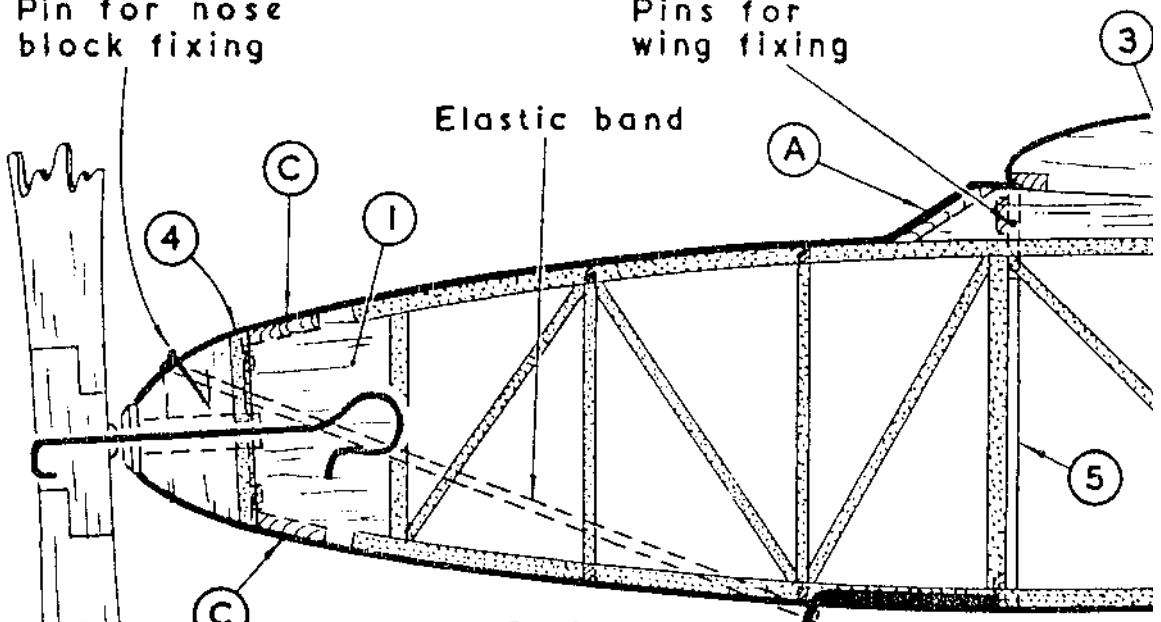
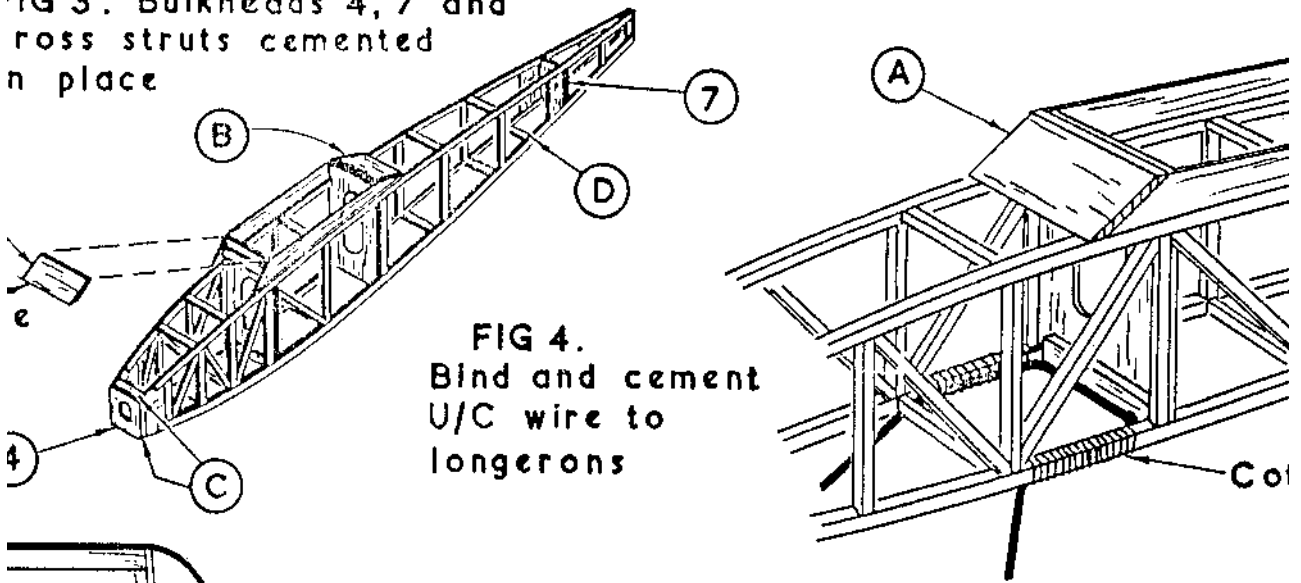

FIG 2. Bulkheads to fuselage side
FIG 4. Bind and cement U/C wire to longerons
Strips of spare $1/16$ in. sheet are cemented to all bulkheads to stiffen them. When dry, assemble bulkheads (5) and (6) to the fuselage sides, see Fig. 2. Next fit bulkheads (4) and (7), holding the assembly together with small elastic bands, and cement the fuselage together at the tail, Fig. 3. Cut cross-struts to length and cement in place. Cut parts A, B, C and D to shape from spare $1/16$ in. sheet, and cement them in place; finally cement part (8) in position. Then sandpaper lightly all over. Form the wire undercarriage, first to the shape shown on the drawing and then bend back the top as shown in the side view drawing. Then bind and cement it to the inside faces of the longerons, Fig. 4. Bend the wire to form the wheel axles at approx. 4in. down each leg from the fuselage. Fit the wheels and bend up the ends of the axles.